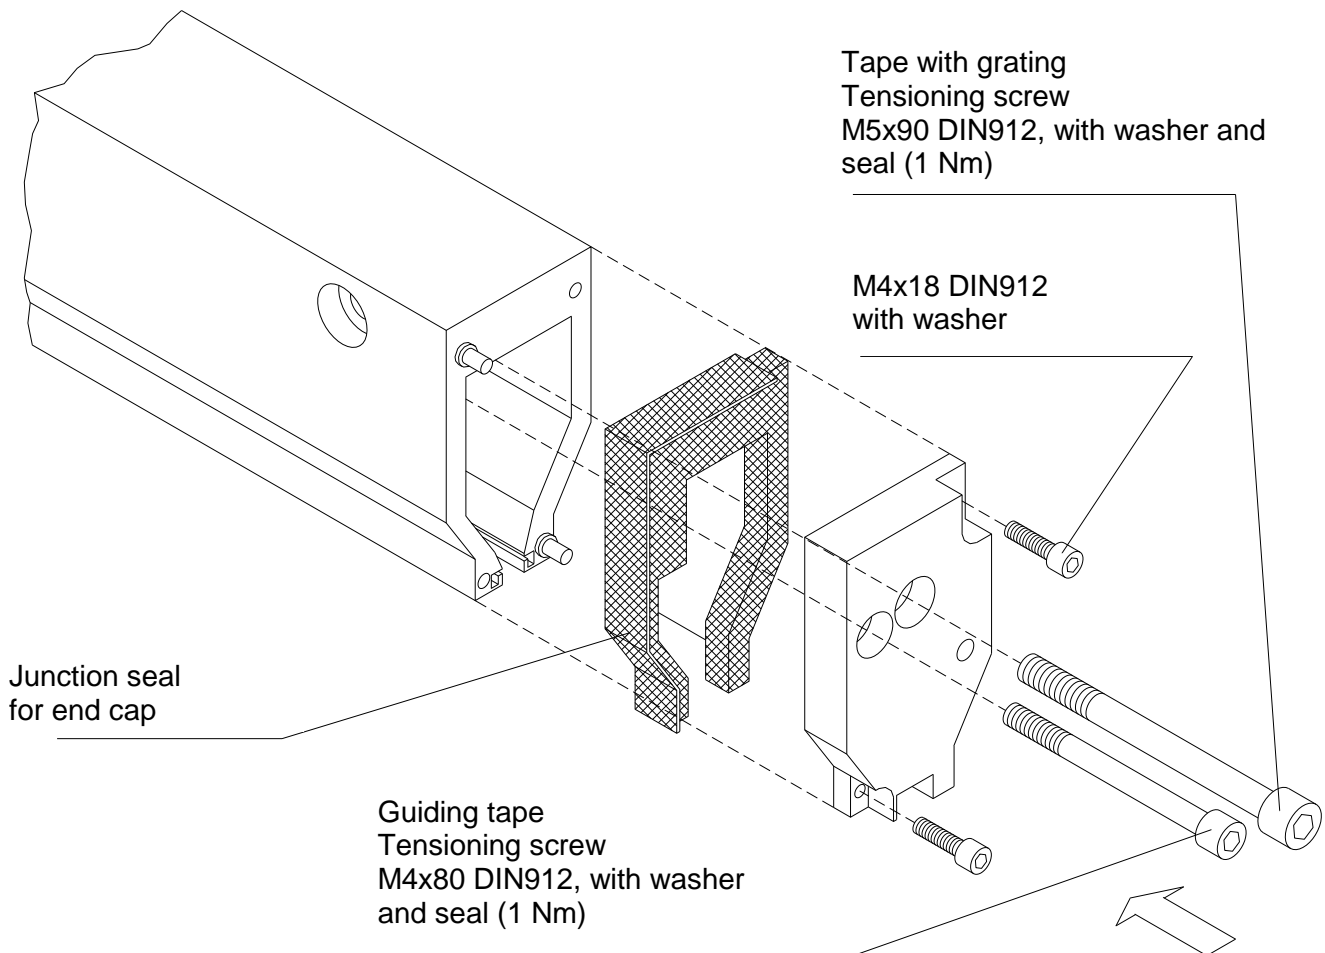

Figure 2.15
- After having inserted and cut the sealing lips as indicated in the previous paragraph, mount the junction seal for the end cap (see Figure 2.15).